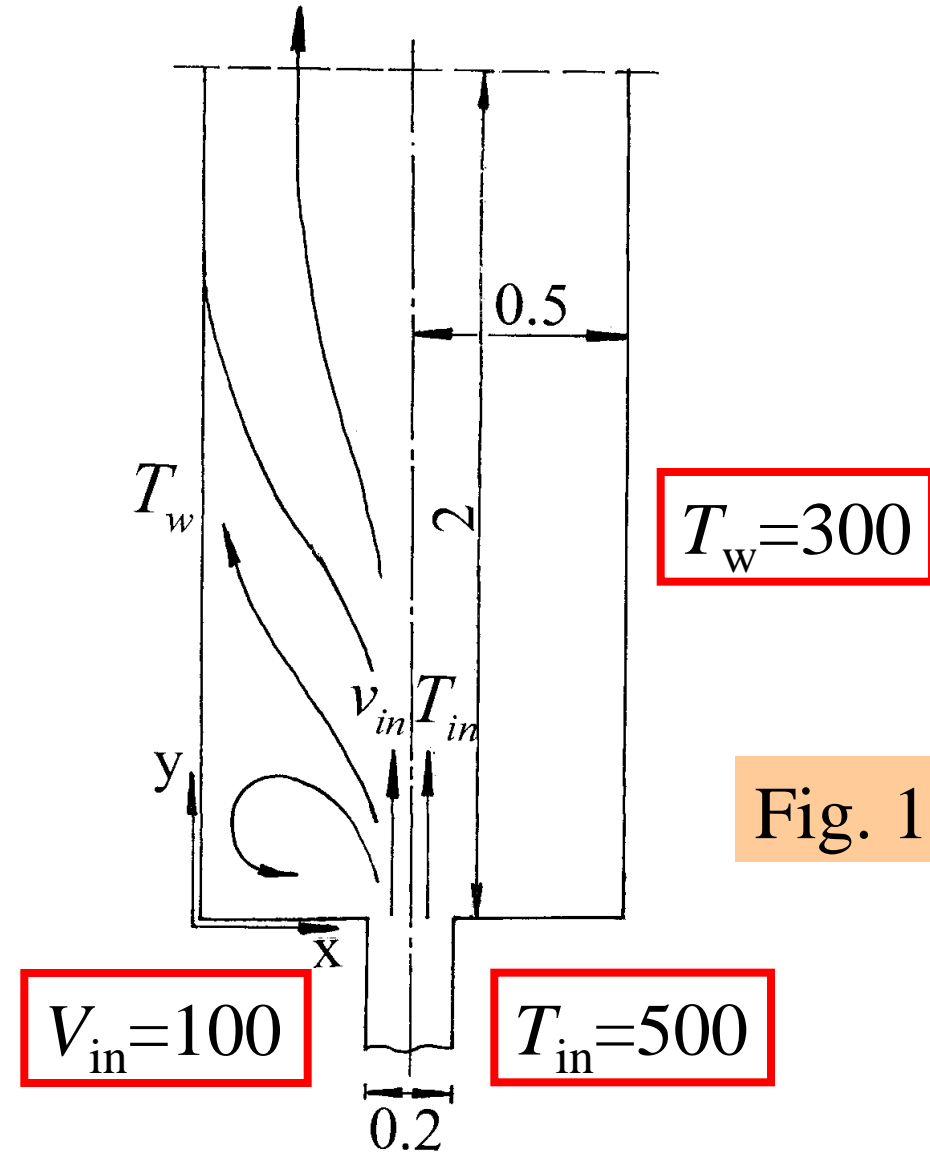

Fig. 1
**Known:** Laminar flow and heat transfer in a parallel duct shown in Fig. 1: Uniform inlet velocity,  $V_{in}=100$ , and uniform inlet temperature,  $T_{in}=500$ ; Duct wall are at uniform temperature,  $T_w=300$ ; Fluid  $Pr=0.7$ , molecular dynamic viscosity  $\eta=1$ ; **density varies** according to: